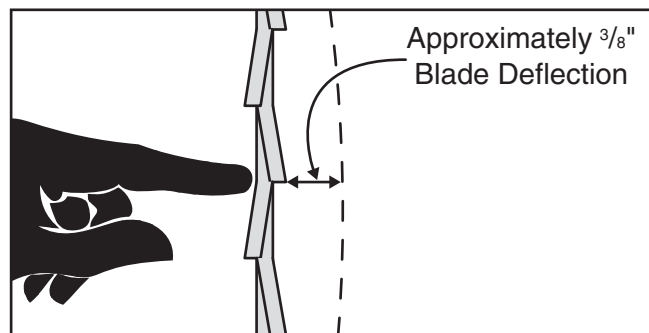

Figure 18. Blade deflection when correctly tensioned.
3. Check the side-to-side deflection of the blade midway between the upper blade guide and the table. The proper amount of deflection should be approximately $\frac{3}{8}$ " when moderate pressure is applied (see **Figure 18**).